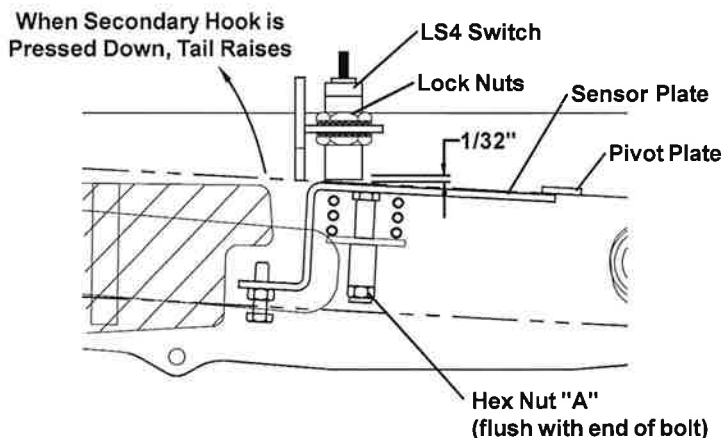

Fig 2. Sensor Plate Adjustment
- a) Tighten hex nut "A" until it is flush with the end of the bolt. (See Fig. 2)